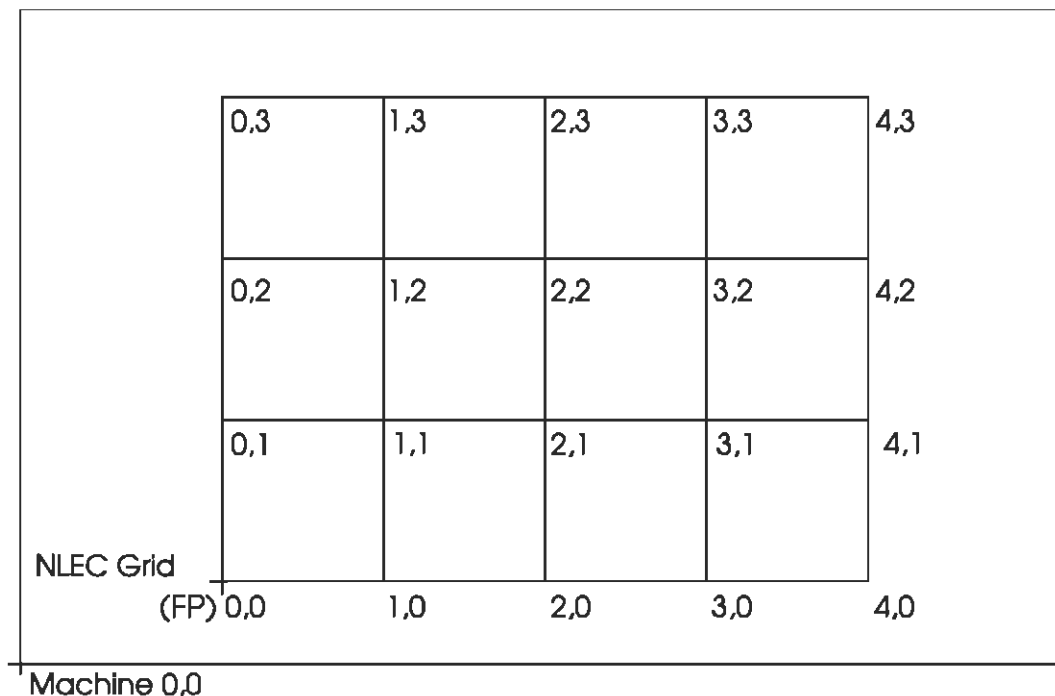

Figure 6-3. NLEC Grid.
The NLEC program must be provided with correction data in order to do its job. Figure 6-3, shows a NLEC "grid" as it might appear on a typical measuring stage.
1. At the prompt "# grid cols:" enter the number of columns and press **ENTER**. In the illustration (Figure 6-3.) the number of columns is 4